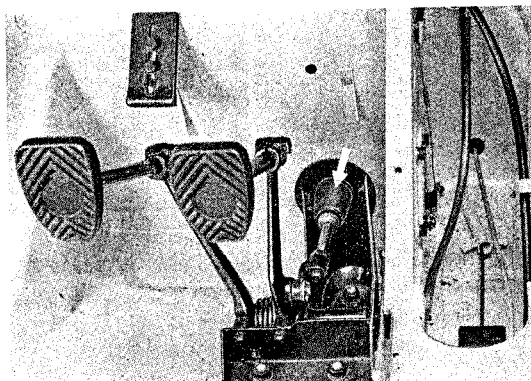

Fig. 6
7. Pull protective cap from master cylinder. (see fig. 6)